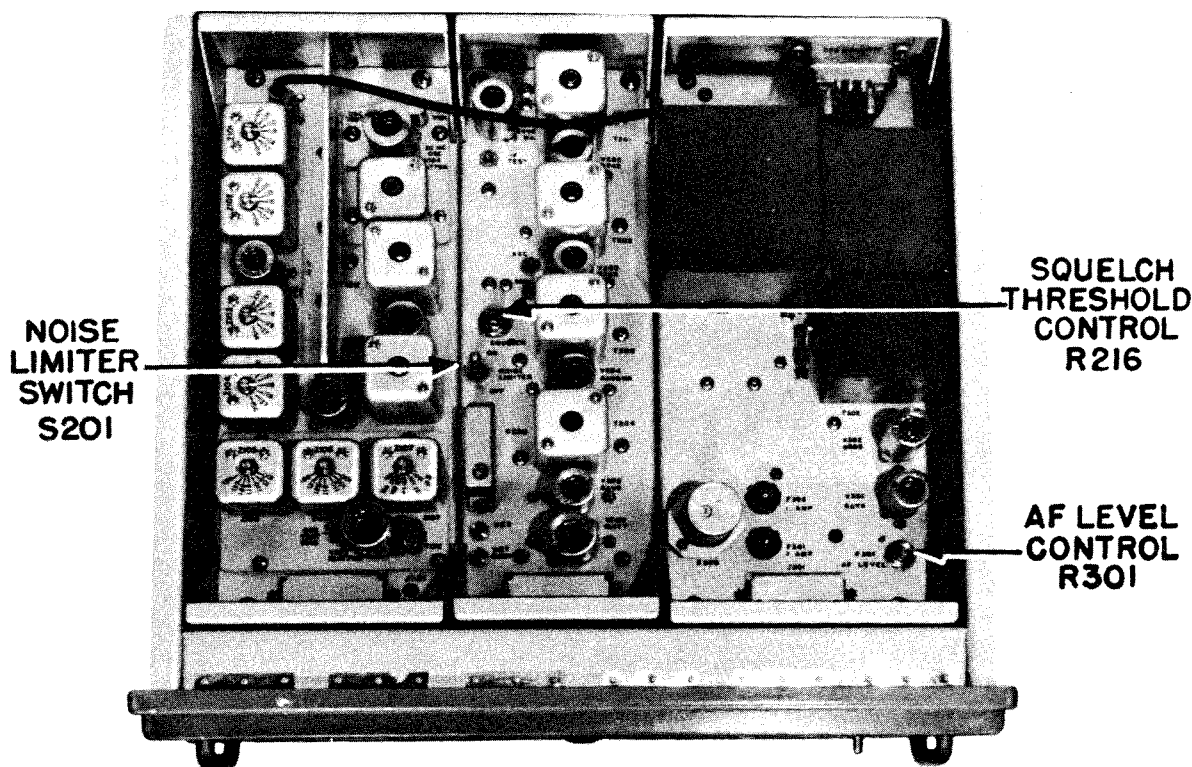

Figure 4-2. Receiver Chassis Controls
(3) PHONES AUDIO LEVEL CONTROL (R401).—This control is used to adjust the level of audio output at the headphone jack. When 600-ohm phones are used, the power level can be controlled in a range of over 30 db. The headphone level is increased when the control is turned in a clockwise direction.
(4) HEAD-TELEPHONE JACK (J404).—This jack is provided so that a pair of 500 to 600 ohm phones can be plugged in, for monitoring the receiver. When the PHONES level control is set at maximum level (clockwise), the audio output from the headphone jack will be about one per cent (1/100) of the power delivered to the AUDIO (J503) receptacle, when its load equals 600 ohms. Accordingly, when the receiver is delivering 1.5 watts into a 600-ohm load, the maximum audio available at the headphone jack is 15 milliwatts into 600-ohm phones.
(5) POWER SWITCH (S401).—This switch controls the AC power input to the receiver. It is OFF in the down position.
b. CHASSIS CONTROLS.—These controls, located on the IF and Audio/Power Supply sub-chassis, as indicated in figure 4-2, permit adjustment of various receiver functions and should not require readjustment after initial installation, unless a change in operating conditions is required. These changes should be performed only by qualified personnel.
(1) NOISE LIMITER SWITCH (S201).—This switch is used to turn the noise limiter action ON or OFF, as desired. Normally the switch is ON, and, in this position, it limits or clips all output from the detector in excess of 60 per cent modulation, particularly all noise peaks exceeding this level. When the noise limiter is switched ON, the audio power is reduced by about 1 to 1.5 db.
(2) SQUELCH THRESHOLD CONTROL (R216).—This control permits adjustment of the squelch threshold. When the control is retarded to the maximum counterclockwise position, the receiver should be un-